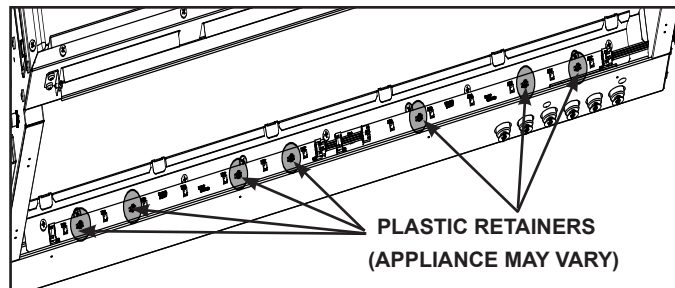

Figure 8 Plastic Retainers with Barbed Ends
4. Remove the ember bed LED boards from the plastic retainers holding them in place. Start at one end of each board, and using a needle-nose pliers to compress the plastic barbs from each retainer. As each plastic barb is compressed, disengage the LED board from each retainer. See Figure 8.
6. Install the new ember bed LED boards by engaging the plastic retainers with each hole of the new LED boards with the plastic barbs, and pressing into position. Reconnect the cables. See Figure 8.